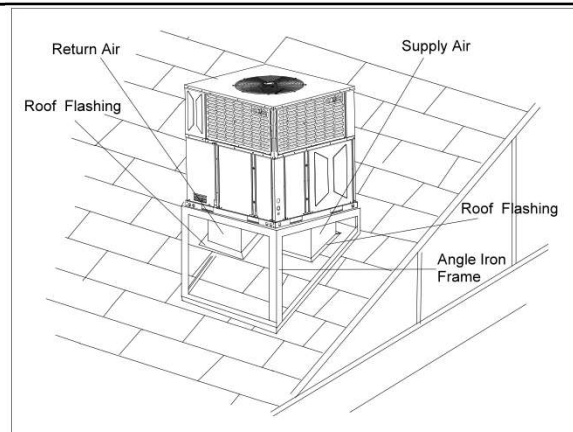

Figure 3.11 Rooftop Installation - Frame Mounting
5. On applications when a roof curb is used, the unit must be positioned on the curb so the front of the unit is tight against the curb. If the unit is to be mounted on a curb in a downflow application, refer to Figure 3.11, and convert panels prior to rigging and lifting. The panel removal process may require the unit to be on the ground.